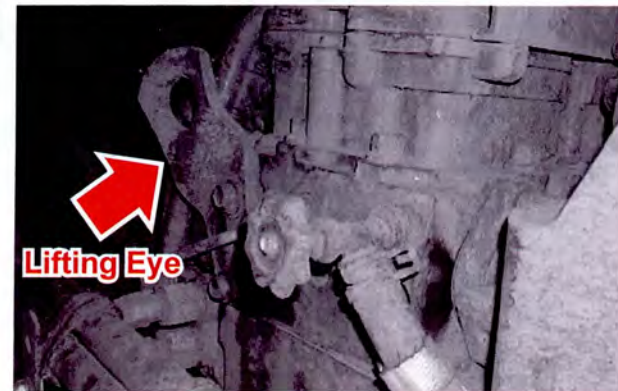

Figure 4
5. Locate and remove the rear engine lifting eye and set aside for reuse. Discard the hardware (see Figure 4).